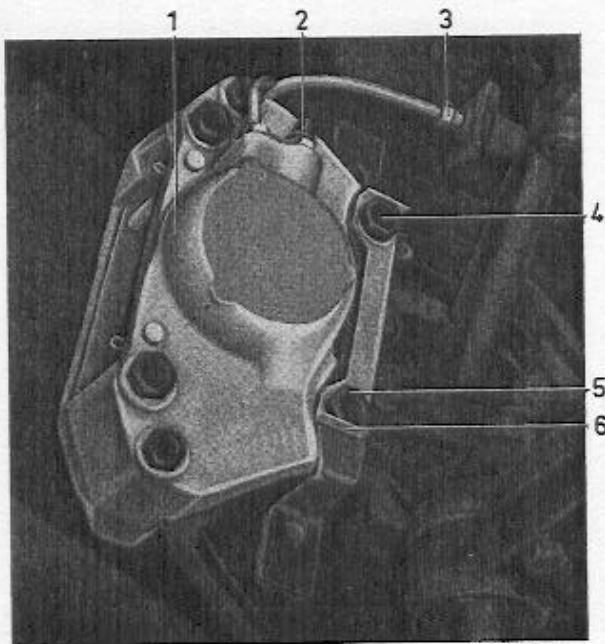
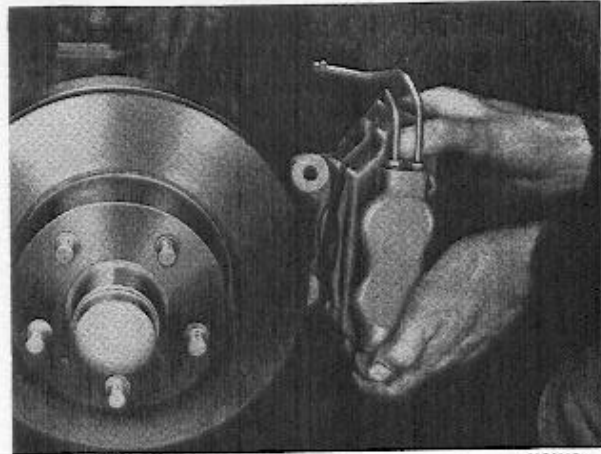

Fig. 40. Front wheel brake unit.
Fig. 41. Removing the front wheel brake unit.
3. Unscrew the brake line (3, Fig. 40) and plug the connection. Brake fluid must not be allowed to get onto the brake disc or pads. Bend up the locking washer (6) and screw out the attaching bolts (4 and 5). Lift off the brake unit complete, see Fig. 41.
Check that the contact surfaces on the front wheel brake unit and retainer are clean and undamaged since it is vital that the brake unit is located correctly in relation to the brake disc. Fit the brake unit, see Fig. 40.